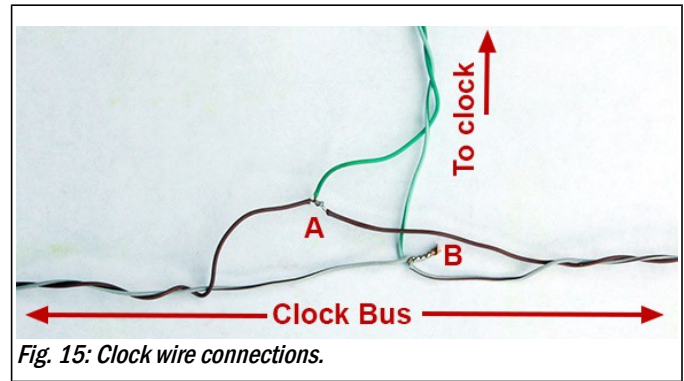

Fig. 15: Clock wire connections.
- ☐ Refer to Fig. 15. The brown twisted-pair of wires is the clock bus, and the green pair goes to a clock. A and B show the connection choices described next.